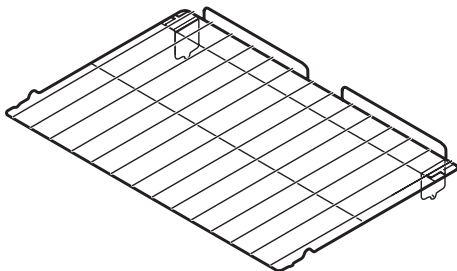

Figure 5 - Models B & C only
- **Effortless™ oven rack** (Models B & C only- Figure 5).